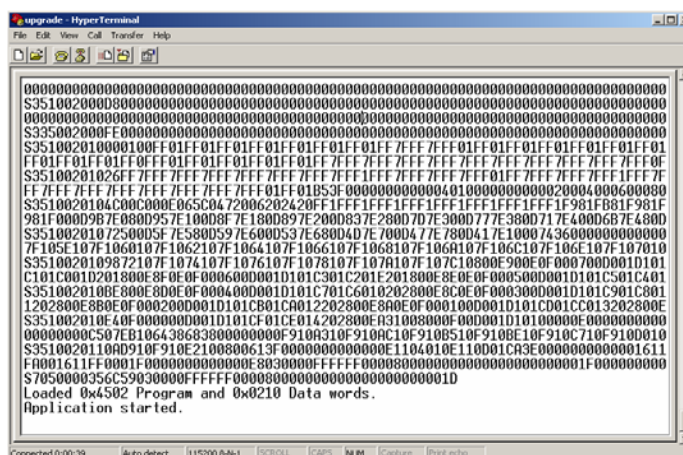

Figure I.10 Successful PMS5005 Firmware Upgrade
12. When the download is started, hex numbers will appear on the screen if you have turned on the "echo" option as described in step 6. Otherwise, you will not see anything but the download is still running. When the firmware download is completed (takes about 20-60 seconds, depending on the speed of your PC), you will see the "Application Started" keyword as shown in Figure I.10 no matter the "echo" option is turned on or off. The new downloaded firmware will automatically start in few seconds and you should see some un-recognized characters